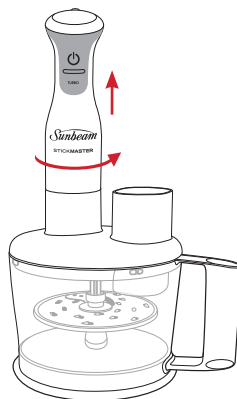

Figure 6
10. To detach the motor body, twist the shaft in an anti clockwise position until the motor body unscrews from the processing bowl. See Figure 6.